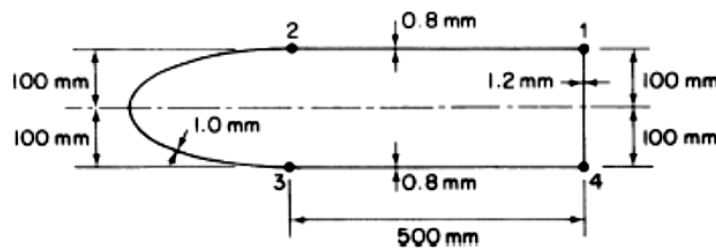

Figure 5
- (b) Figure 5 shows the cross-section of a single-cell, thin-walled beam with a horizontal axis of symmetry. The direct stresses are carried by the booms  $B_1$  to  $B_4$ , while the walls are effective only in carrying shear stresses. Assuming that the basic theory of bending is applicable, calculate the position of the shear center S. The shear modulus  $G$  is the same for all walls: Cell area =  $135000 \text{ mm}^2$ ; Boom areas:  $B_1 = B_4 = 450 \text{ mm}^2$ ;  $B_2 = B_3 = 550 \text{ mm}^2$ . [7M]